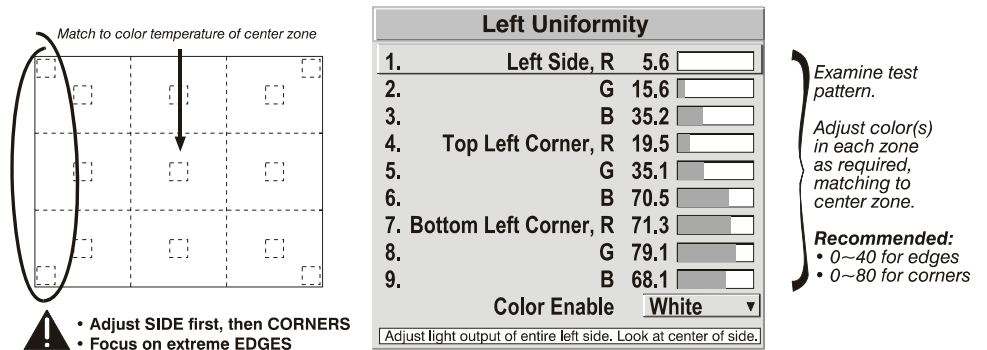

Figure 3.21. Match Zones to Center Color Temperature
- 2b) Return to the *White Field Uniformity* menu. Beginning with the screen that exhibits the most obvious color shift(s), for each edge that exhibits a noticeably different color temperature from the center, select the corresponding *Uniformity* adjustment menu — *Left, Right, Top* or *Bottom*. For example, if any part of the left side is too blue, too red or too green, go to the *Left Uniformity* menu and adjust the colors (i.e., change their light output) until all portions of the left side closely match the center color temperature. Adjust an edge first (focusing on its center), and then adjust its corners. See Figure 3.21.